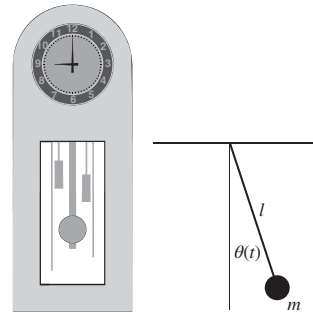

Figure P10.25 Pendulum in a grandfather clock.
- 10-25.** A grandfather clock shown in Fig. P10.25 keeps time using a pendulum of length l and mass m that oscillates in the vertical plane, subject to the acceleration of gravity g . If the pendulum is initially displaced by a small angle θ_o , the oscillation $\theta(t)$ satisfies the following second-order differential equation and initial conditions: